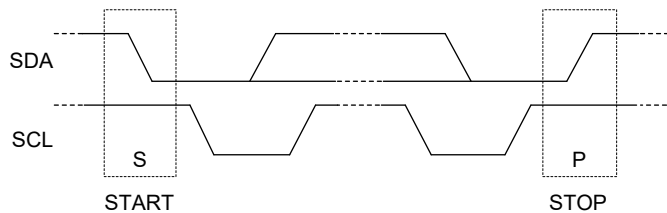

Figure 8. START and STOP Conditions
If the bus is free, a transaction can be started by master. When the data transfer is completed, the transaction is terminated by releasing the bus, as shown in Figure 8. All transactions are started by the master, which applies a START (S) condition on the bus to take over the bus and exchange data. Finally, the master terminates the transaction by applying one (or more) STOP (P) conditions.